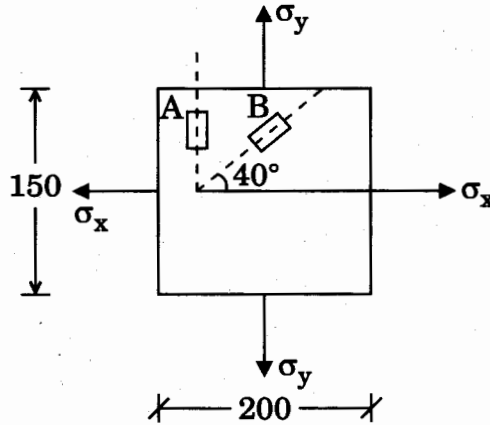

Figure 2
- (e) A 200 mm  $\times$  150 mm  $\times$  10 mm aluminium plate is subjected to uniform bi-axial stresses  $\sigma_x$  and  $\sigma_y$ . Two strain gauges A and B are attached to the surface of the plate as shown in the Figure 2. If readings in strain gauges are  $\epsilon_A = 200 \times 10^{-6}$  and  $\epsilon_B = 285 \times 10^{-6}$ , what are the values of  $\sigma_x$  and  $\sigma_y$ ? What is the reduction in thickness of the plate as a result of stresses?